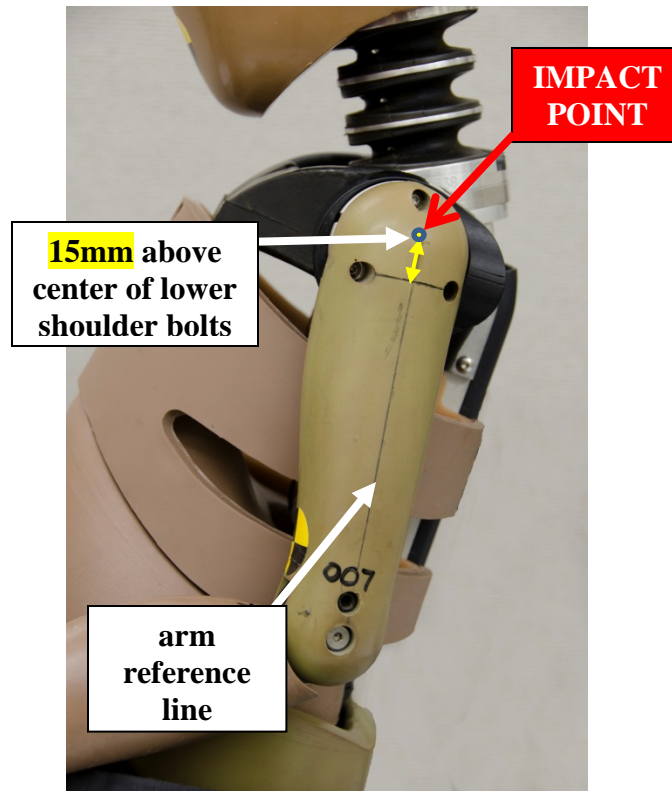

Figure 60. Determine the shoulder impact point
- To determine the center of impact point on the shoulder, draw a reference line between the center of the shoulder and the bolts at the distal (elbow) end of the upper arm. Draw a line connecting the centers of the lower shoulder bolts (Figure 60). Next, measure 15mm up from the line through the lower shoulder bolts along the arm reference line. This is the point of impact.